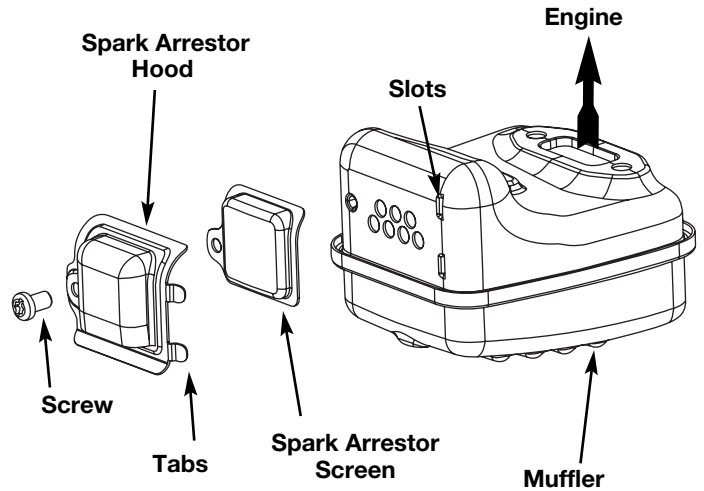

Fig. 28
2. Locate the muffler, but do not remove it. Find the screw on the bottom of the muffler (Fig. 28). Remove the screw using either a torx #20 or flat blade screwdriver.